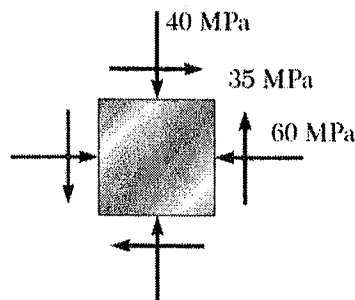
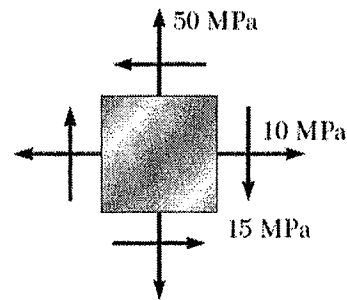

Figure 3a
Figure 3b
3. For the given state of stress in Figure 3a and Figure 3b, determine